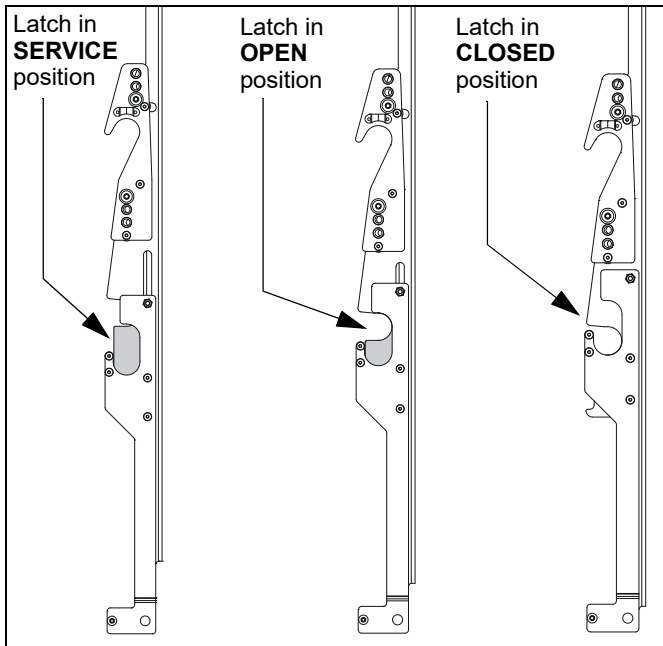
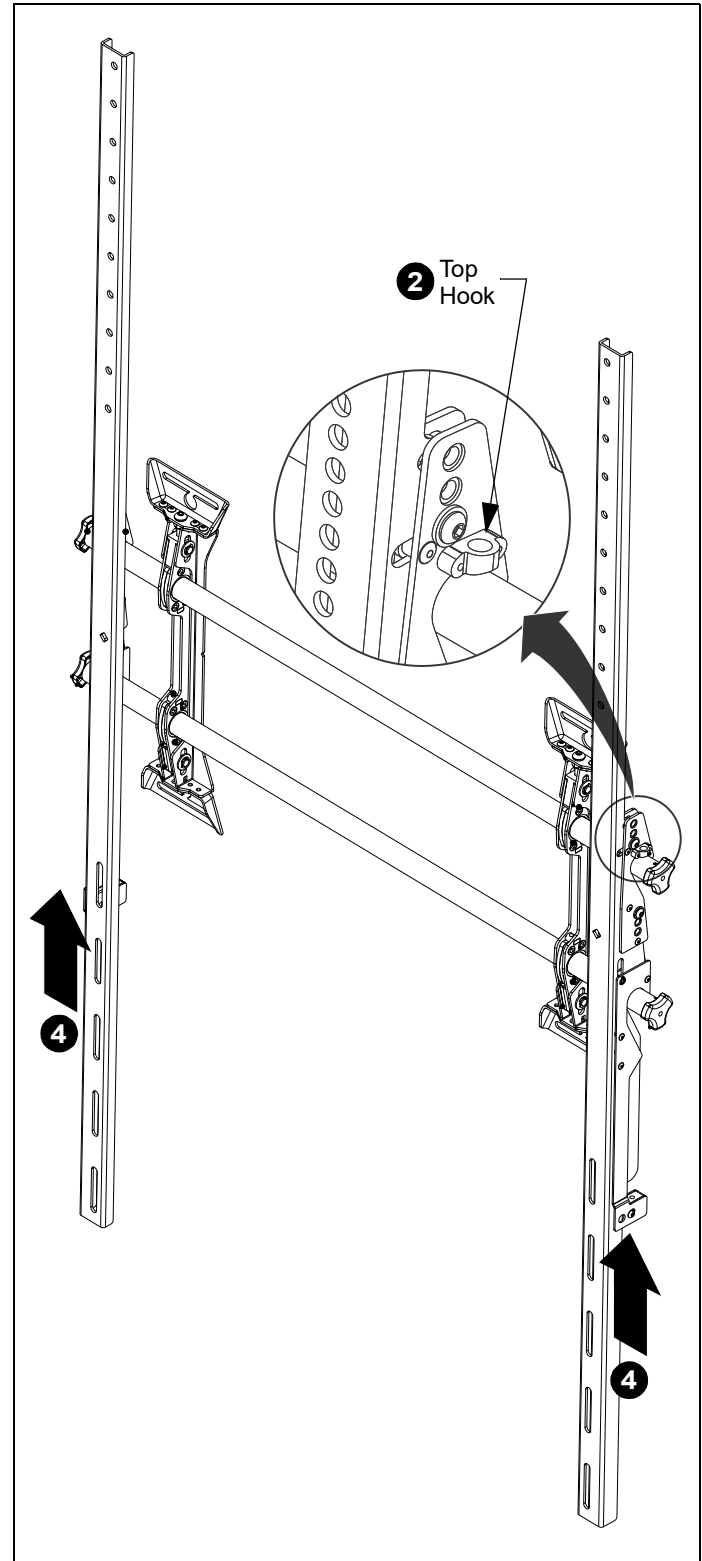

Figure 11
Figure 12
IMPORTANT ! : Completely extend bottom of interface brackets (by pulling downward) to set interface brackets in **SERVICE** position before hanging on top rail. (See Figure 11)
2. Hang screen onto the top rail of the mount (Y). (See Figure 12)
- Hang top hook of interface brackets (V and W) onto the top rail of the mount (Y). (See Figure 12)
- Open latch by pushing bottom of interface bracket up to **OPEN** position, latching interface brackets to lower rail, and then push up from bottom of interface bracket again until the interface bracket is in **CLOSED** position. (See Figure 11) and (See Figure 12)
1. With interface brackets in **CLOSED** position (See Figure 11), remove two fasteners holding tilt compensation in place on each interface bracket (V and W). (See Figure 15)